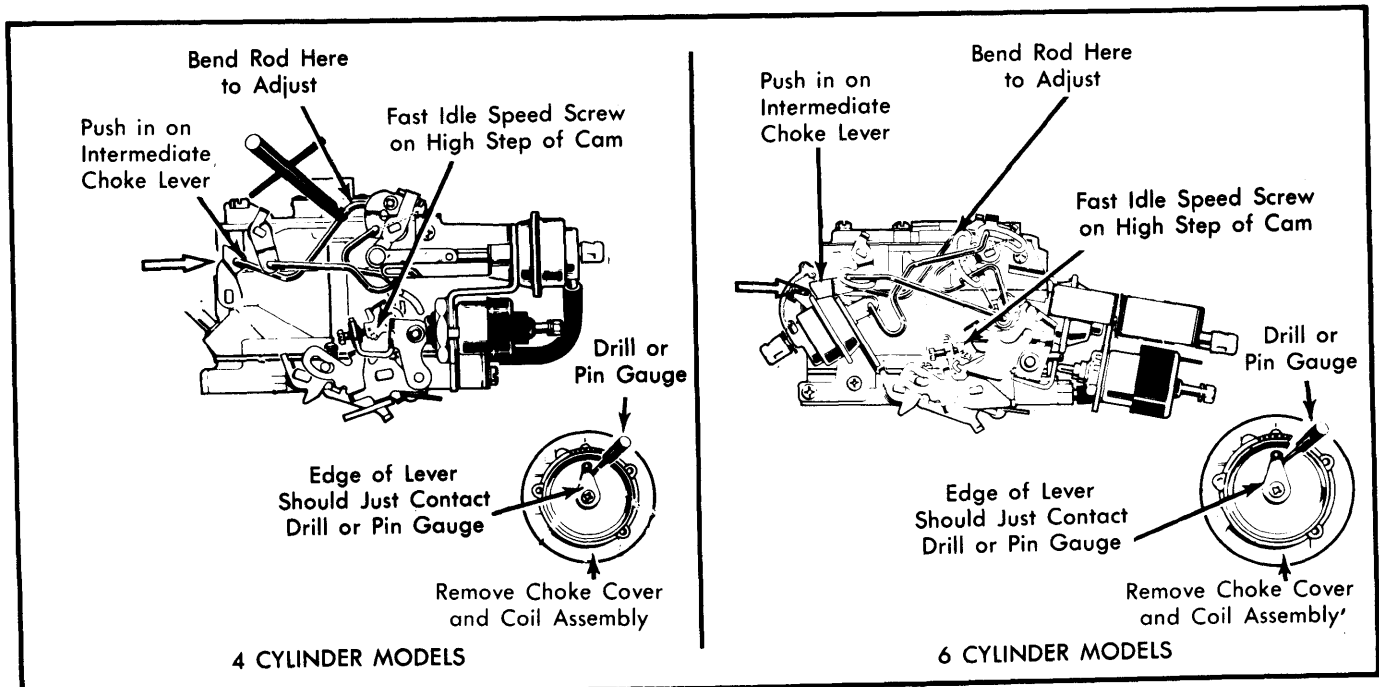

Fig. 4 Adjusting Choke Coil Lever
1) If necessary, remove rivets and choke thermostatic cover from choke housing. Place fast idle screw on high step of fast idle cam. See Fig. 4.